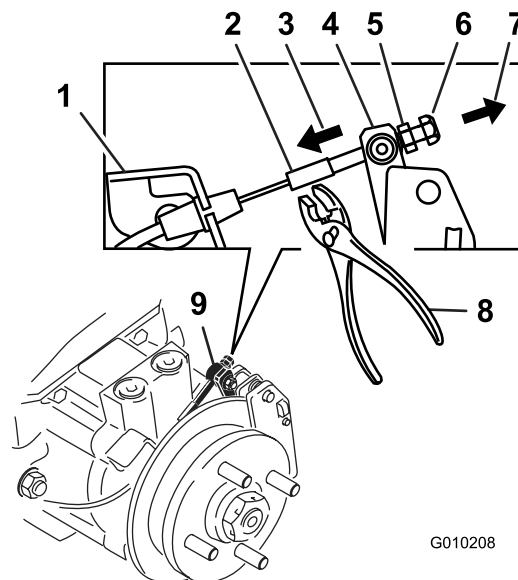

Figure 71
9. Using hands and fingers only, push the caliper lever arm to engage the brake pads on the rotor until the lever stops (Figure 71).
10. While holding the lever at the stopped position, use the other hand or fingers to pull the cable threaded end tight through the swivel. Spin the standard nut against the swivel (Figure 71).